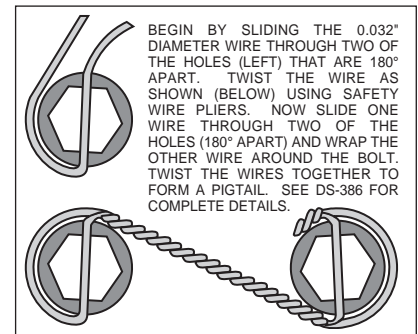

Figure 3. Safety Wire Diagram
- With the larger I.D. side of the rotor (5) facing away from the hat (6), bolt rotor (5) to hat (6) through the backside of the rotor using washers (7) and bolts (8). Using an alternating sequence, apply red *Loctite*® 271 to the threads and torque bolts to 155 in-lb. For an added measure of security, the bolts may be safety wired using standard 0.032 inch diameter stainless steel safety wire as shown in Figure 3. Please refer to Wilwood's data sheet DS-386 for complete safety wire installation instructions. Slide the rotor/hat assembly onto the hub. Install a couple of lug nuts (finger tighten) to keep the rotor/hat assembly in place while continuing with the installation.